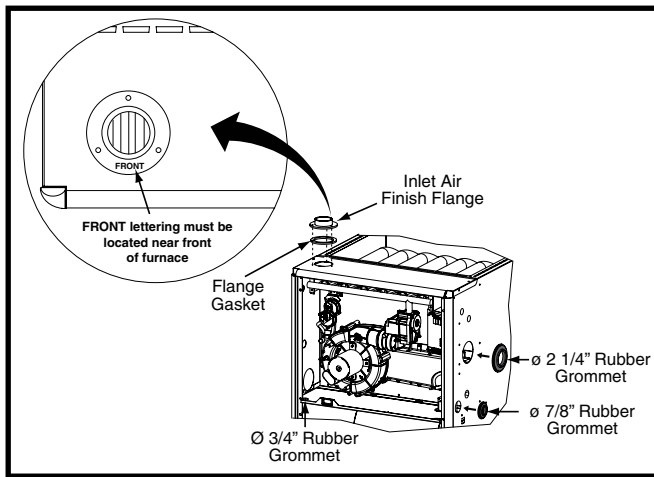
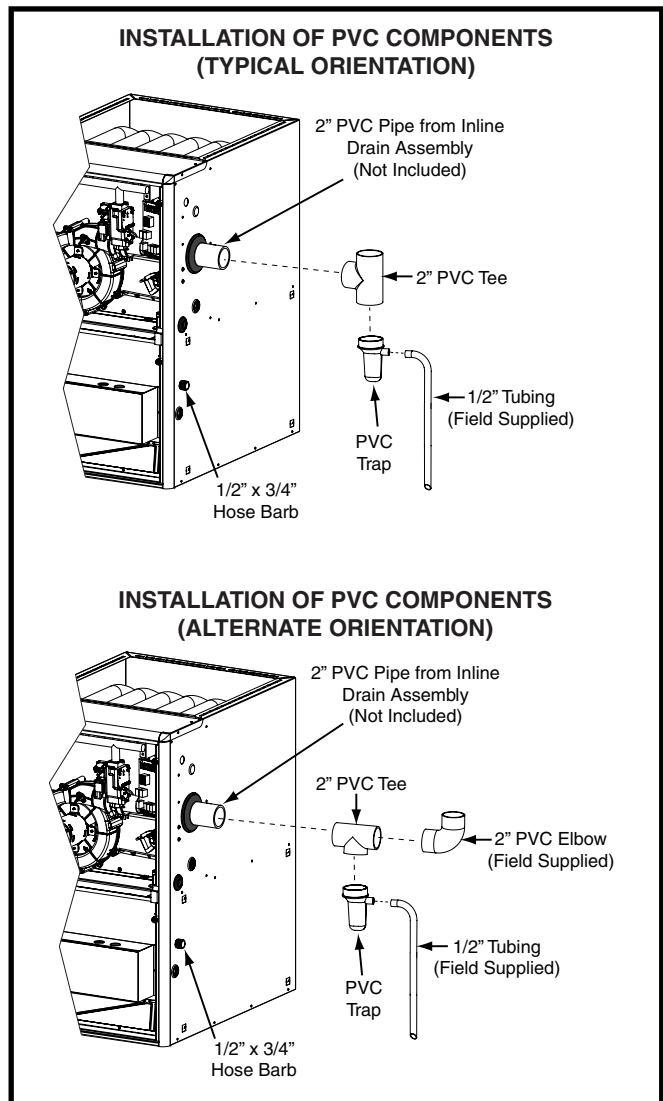

Figure 16. Finish Flange & Rubber Grommets
Figure 17. PVC Components
The components in Figure 16 (page 18) & Figure 17 (page 18) are included in the extra parts bag supplied with the purchase of *TE / *TN furnaces. Depending on your particular installation, some of these components are optional and may not be used. Please refer to the descriptions and accompanying figures when installing these items.
2. Position finish flange on top of the flange gasket. **NOTE:** Make sure the flange is properly oriented so that the FRONT lettering is located near the front of the furnace as shown in Figure 16 (page 18).
The 2 1/4" rubber grommet is used to seal the opening between the furnace cabinet and the 2" PVC vent pipe. The rubber grommet should be installed in the 3" hole prior to running the vent pipe out of cabinet. No sealants are required. See Figure 16.
- The 2" PVC pipe shown in Figure 17 is not provided in the extra parts bag.
The 2" PVC Tee and Trap are used when the inducer is rotated to vent out thru the left or right side of the furnace cabinet. See Figure 17.
1. Install the PVC Tee vertically on the 2" vent pipe that is extending out the side of the cabinet. Permanently bond them together using appropriate primer and cement. Refer to the typical orientation shown in Figure 17.
1. Install the 2" PVC Tee horizontally on the 2" vent pipe that is extending out the side of the cabinet. Permanently bond them together using appropriate primer and cement. Refer to the alternate orientation shown in Figure 17.